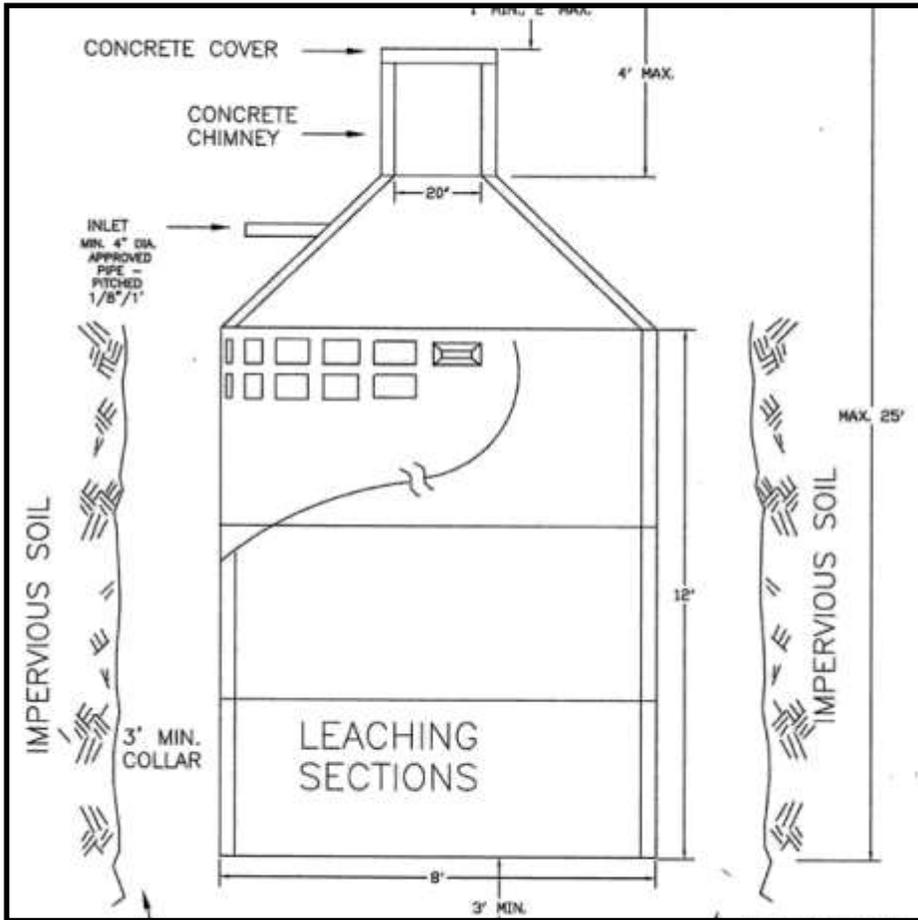
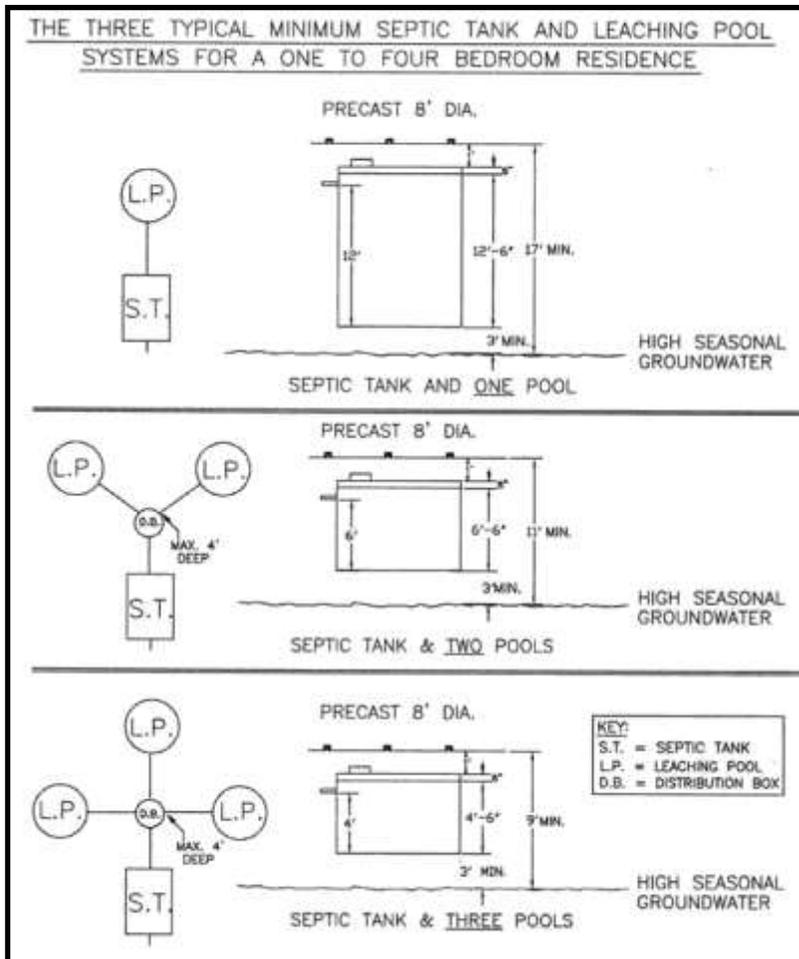

Figure 1
Figure 2
- a. *Typical Leaching Pool Layout:* A typical leaching pool is shown in Figure 1. Typical leaching pool layouts are shown in Figure 2.
- c. *Pipe Directly:* The leaching pools shall be piped directly from the septic tank or a distribution box (see Figure 2).